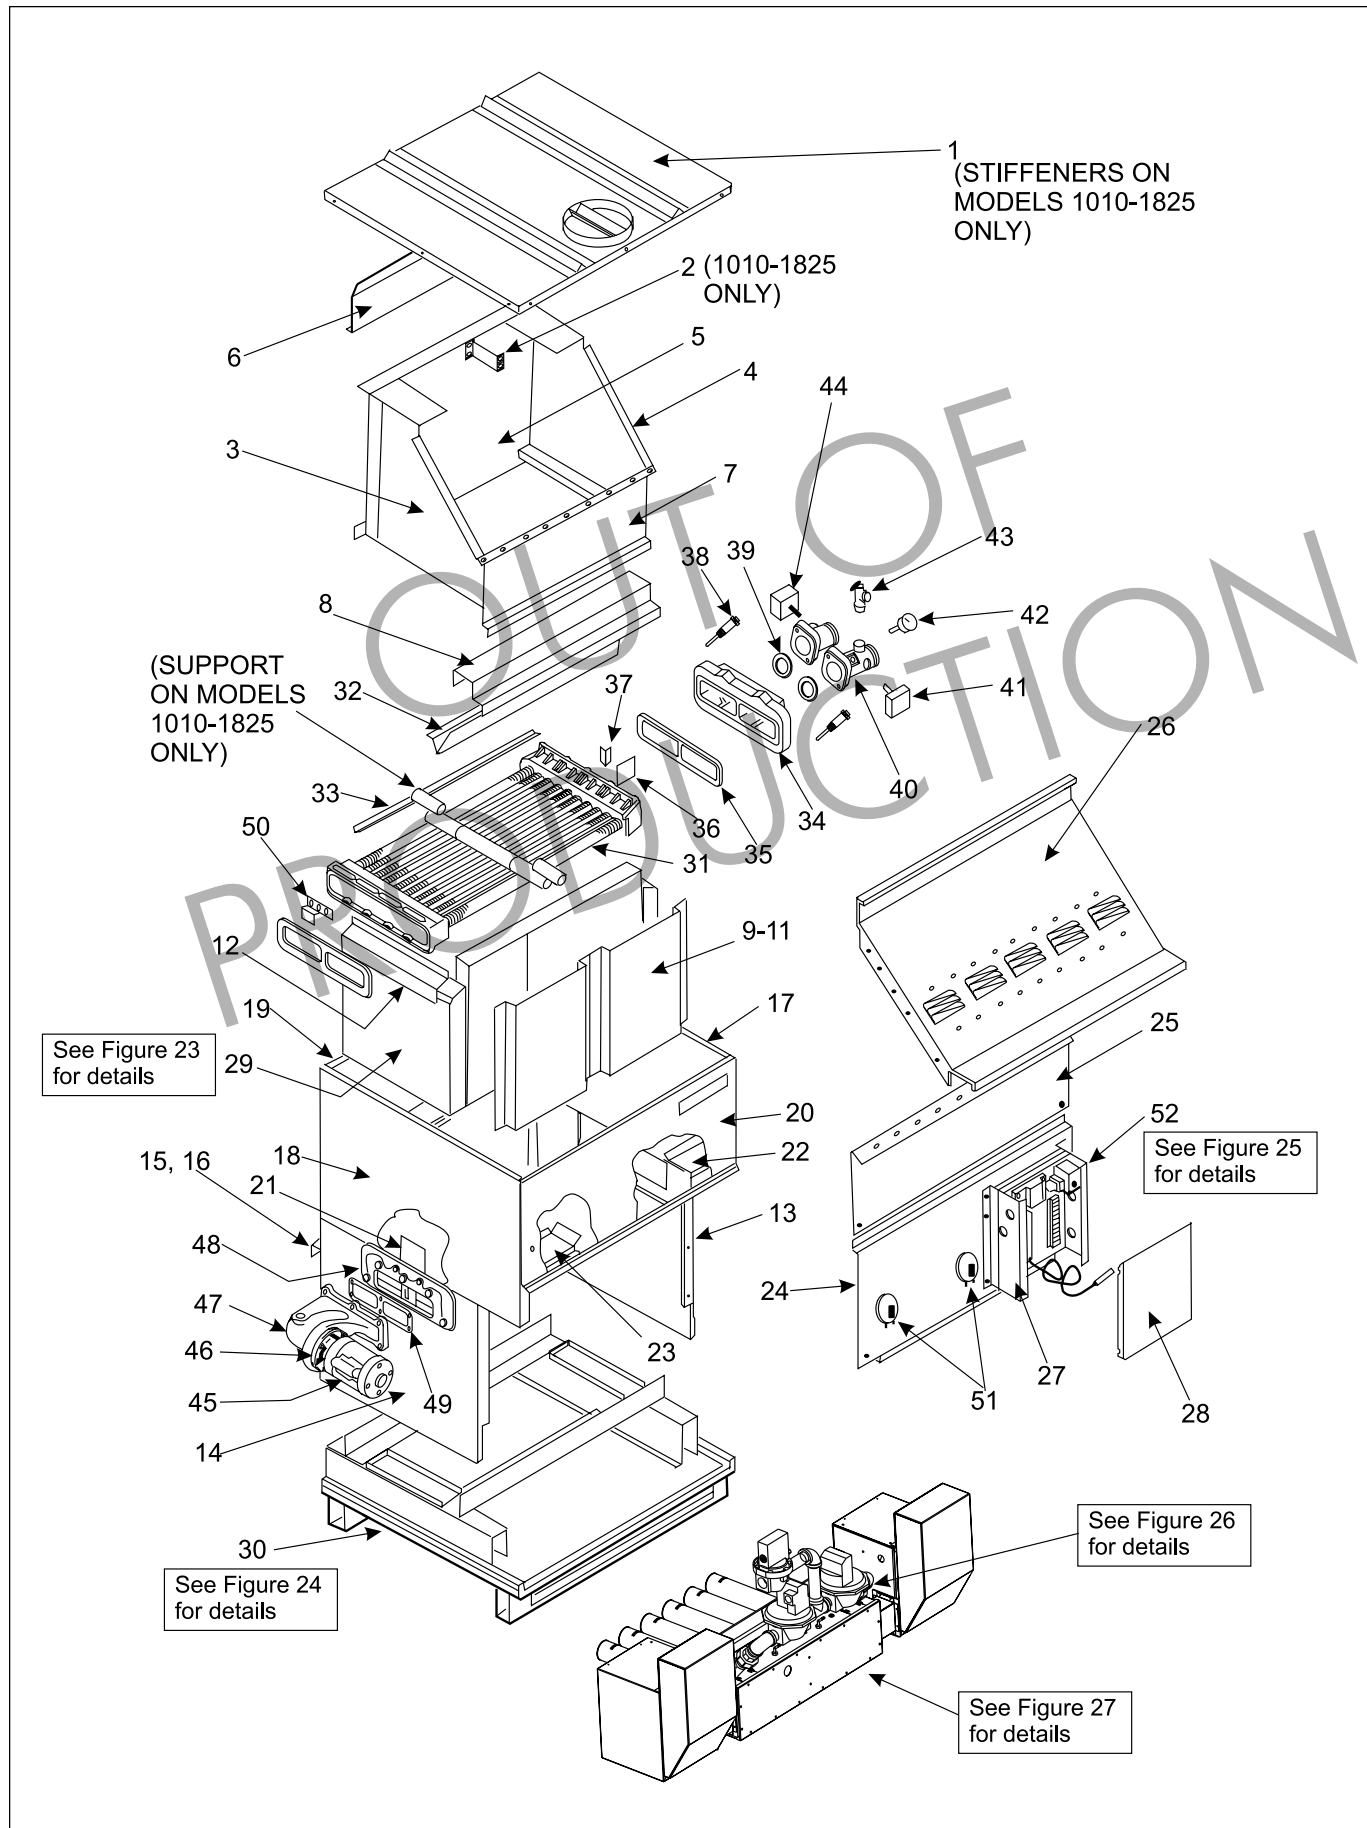

Figure 22. Parts Identification.
4. Remove the vent pipe (for outdoor units remove vent top assembly), top panel, upper jacket assembly and flue collector (see Figures 22 and 28).